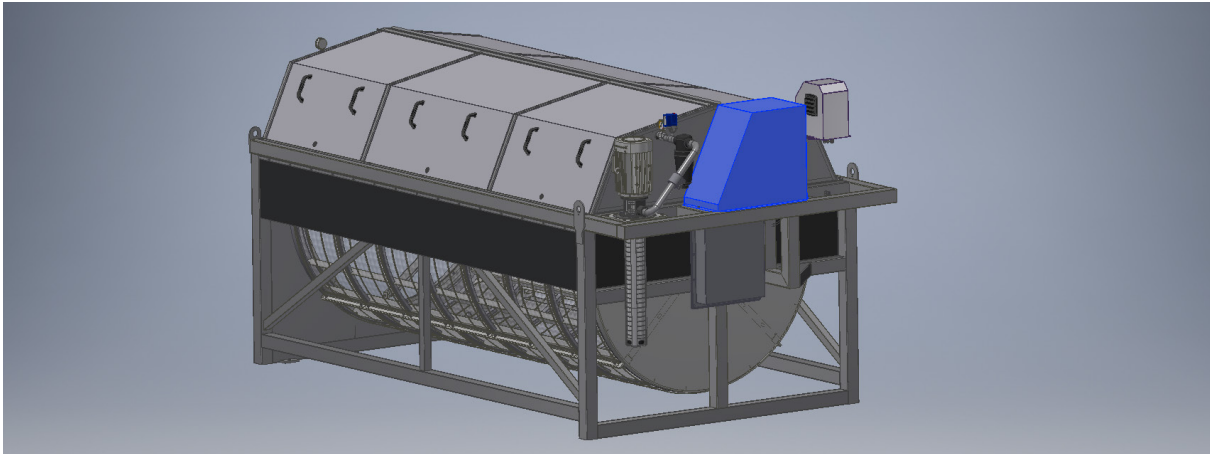

Figure 2.1 Removing the motor cover.
3. Remove motor cover by undoing the two screws holding it to the filter frame (see figure 2.1).